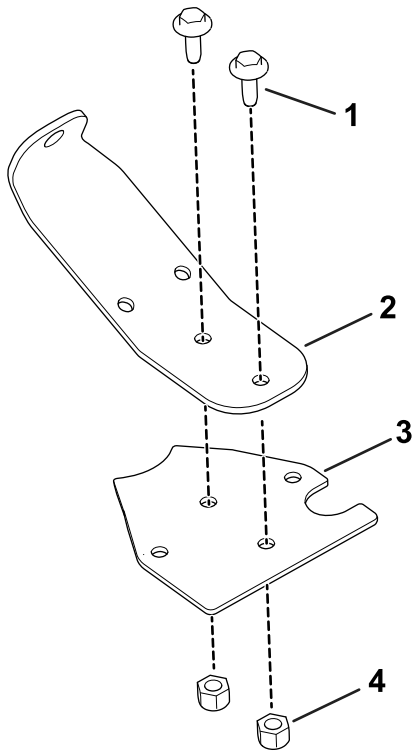

Figure 30
2. Use 2 flange-head screws (1/4–20 x 5/8 inch) and 2 flange nuts (1/4 inch) secure the valve mount to the harness base (Figure 30).